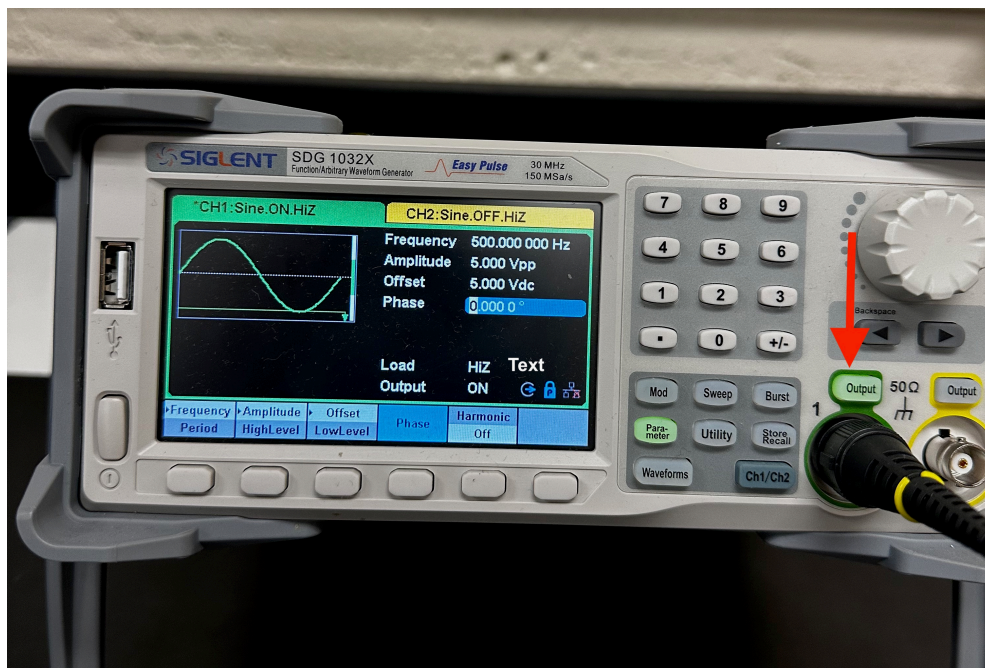

Figure 4. Output signal button. Green light indicates that it is active and functioning.
Figure 4. Process flow for the electropolymerization of chitosan nano brushes into the working electrode of a LIG sensor. The steps are separated into sections: preparation (blue), electropolymerization (red), stabilization and storage (green), and cleaning up the working area (yellow).
- Set up the time with a timer for the FMED electropolymerization of lower molecular weight deacylated chitosan in the working electrode of the LIG sensor. Start the time and, **at the same time**, press the Output button (**Fig. 4**). Be sure that the output button is ON (A green light indicates that it is already working).